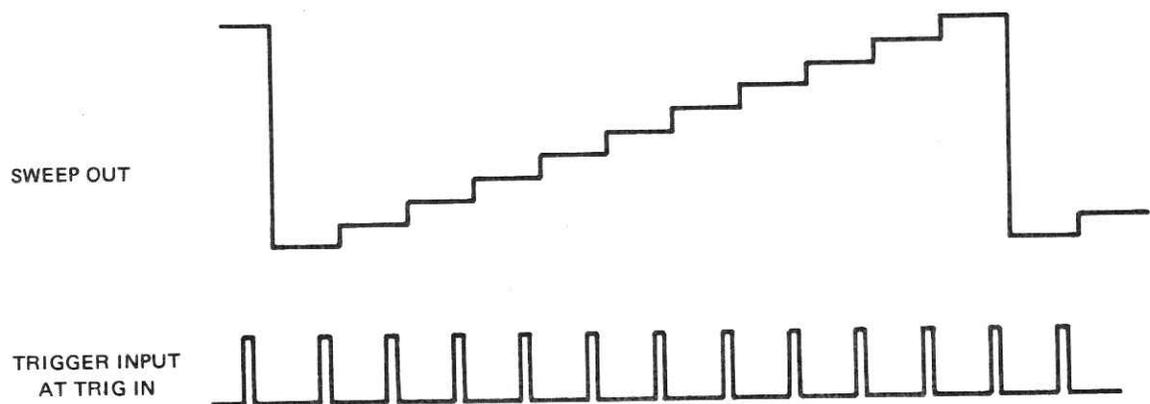

Figure 2-11. Single Step Mode Operation
5. Adjust the TRIG LEVEL control until the SWEEP OUT signal advances one step for every cycle of trigger input signal. See Figure 2-11.